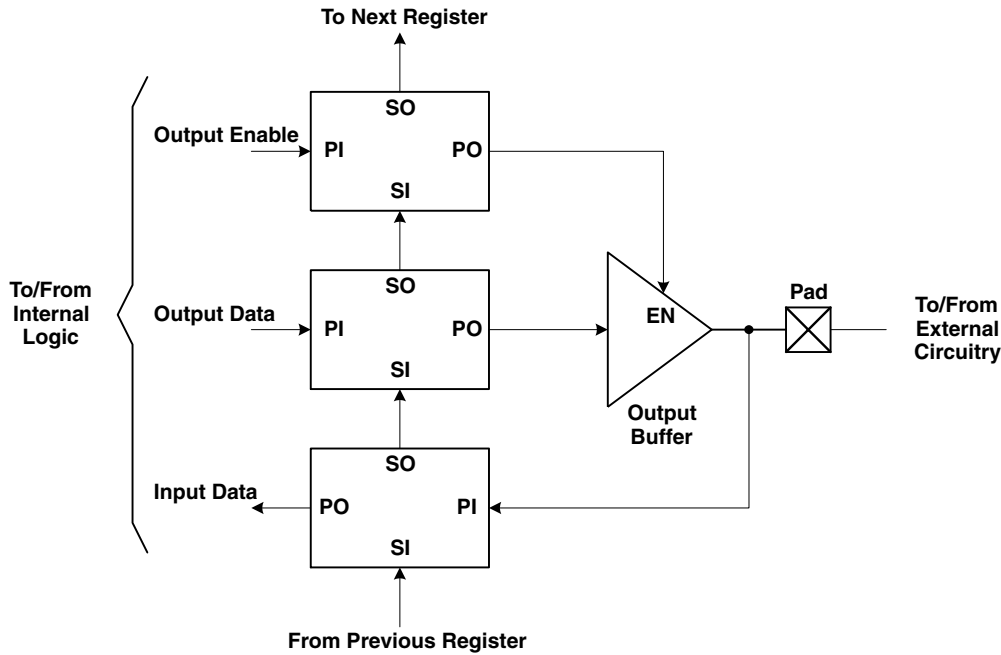
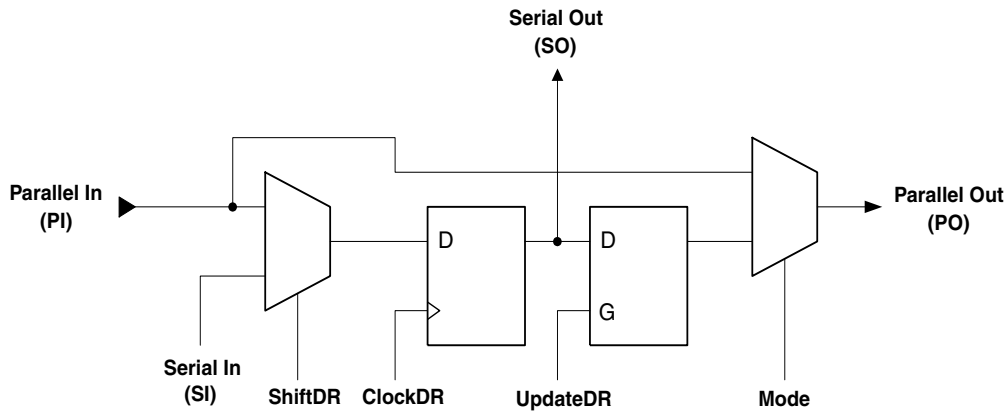

Figure 7 • Boundary-Scan Setup for all I/Os
Figure 8 • Boundary-Scan Cell Implementation
Each I/O cell of the ProASIC device has three boundary-scan register cells, as shown in Figure 7. The actual implementation of the boundary-scan register cell is shown in Figure 8. Each register cell has four ports, serial input (SI), serial output (SO), parallel in (PI), and parallel out (PO). The SI and SO ports of each cell are used to serially